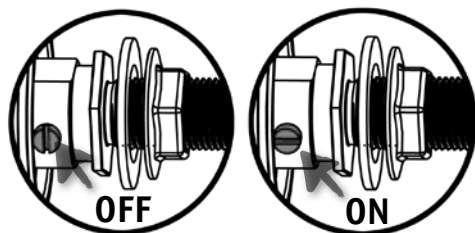

Fig. 29
2) Ensure that the ISOLATION VALVES 5 are in the OFF position. using FLAT-BLADE SCREWDRIVER (Fig. 29)